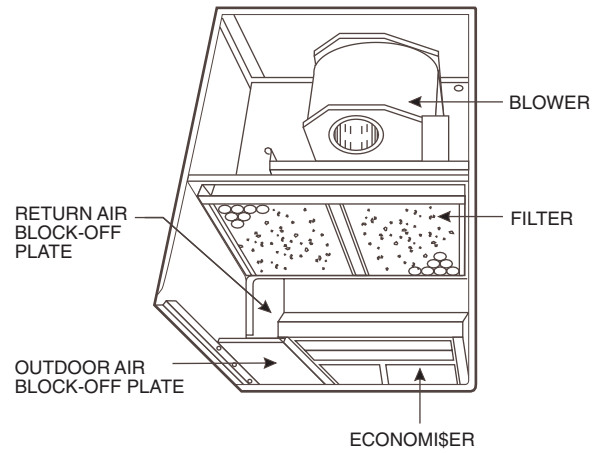

Fig. 7 — Return Air Block-Off Plate Installation (7½ to 12½ Ton Units Only)
6. For 3 to 6 ton units, proceed to Step 7. For 7½ to 12½ ton units, install the return air block-off plate over the return air duct opening. See Fig. 7.